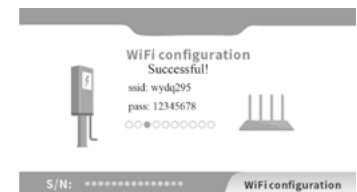

Fig.2 / WiFi configuration successful
6. When all the indicator lights flash once in a second, it indicates that the charging station's Wi-Fi configuration is completed. At the same time, the LCD screen will display „Successful“ and the name and password of the WLAN SSID (Fig.2).